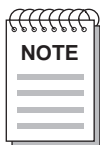

**Figure 2-3. Installing a GPIM into the SmartSwitch 9000 module**
4. Gently insert the GPIM (20-pin connector side) through the GPIM opening of the SmartSwitch 9000 module, as shown in Figure 2-3. The door folds sideways and the slides engage the sides of the GPIM. If the GPIM does not go in easily, do not force the device. Check the orientation against Figure 2-2. Push the GPIM back until the 20-pin port engages the GPIM. The latch mechanism engages when the GPIM connector seats properly in the port.